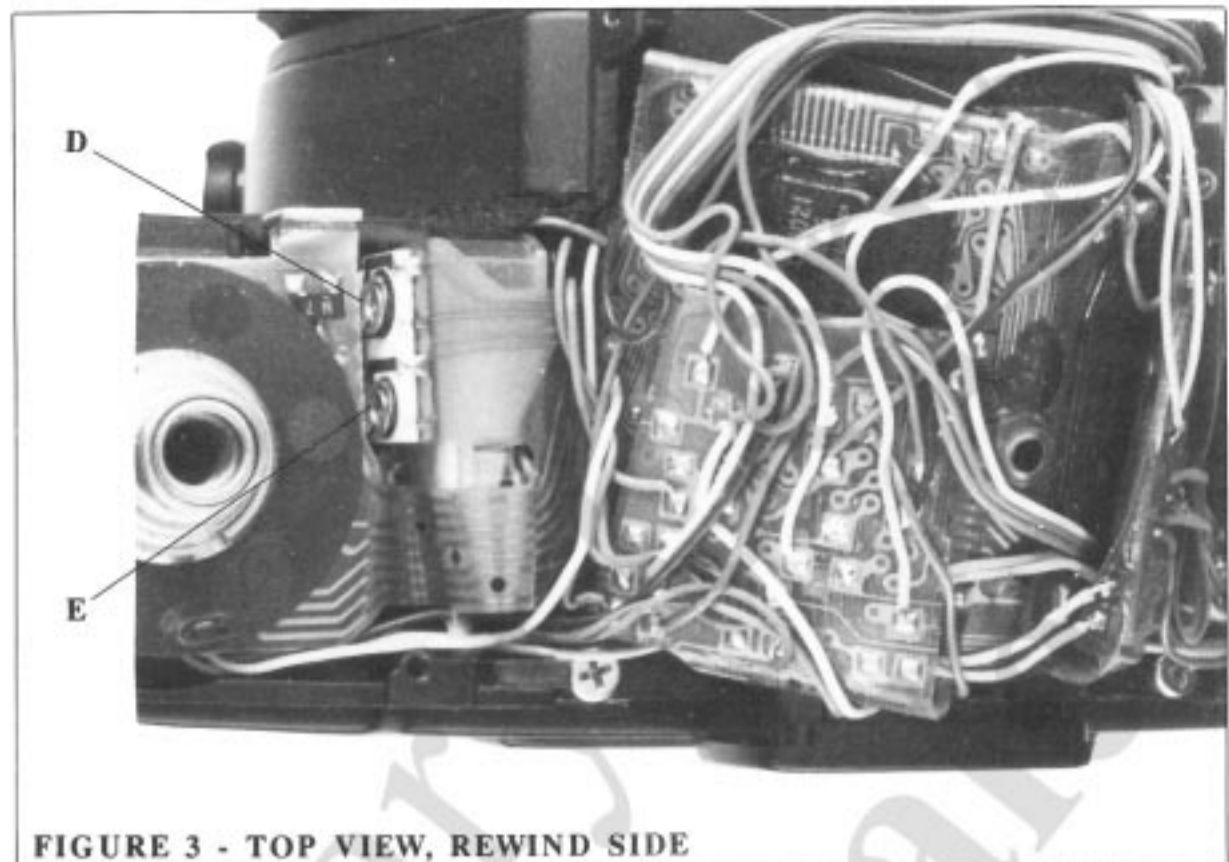
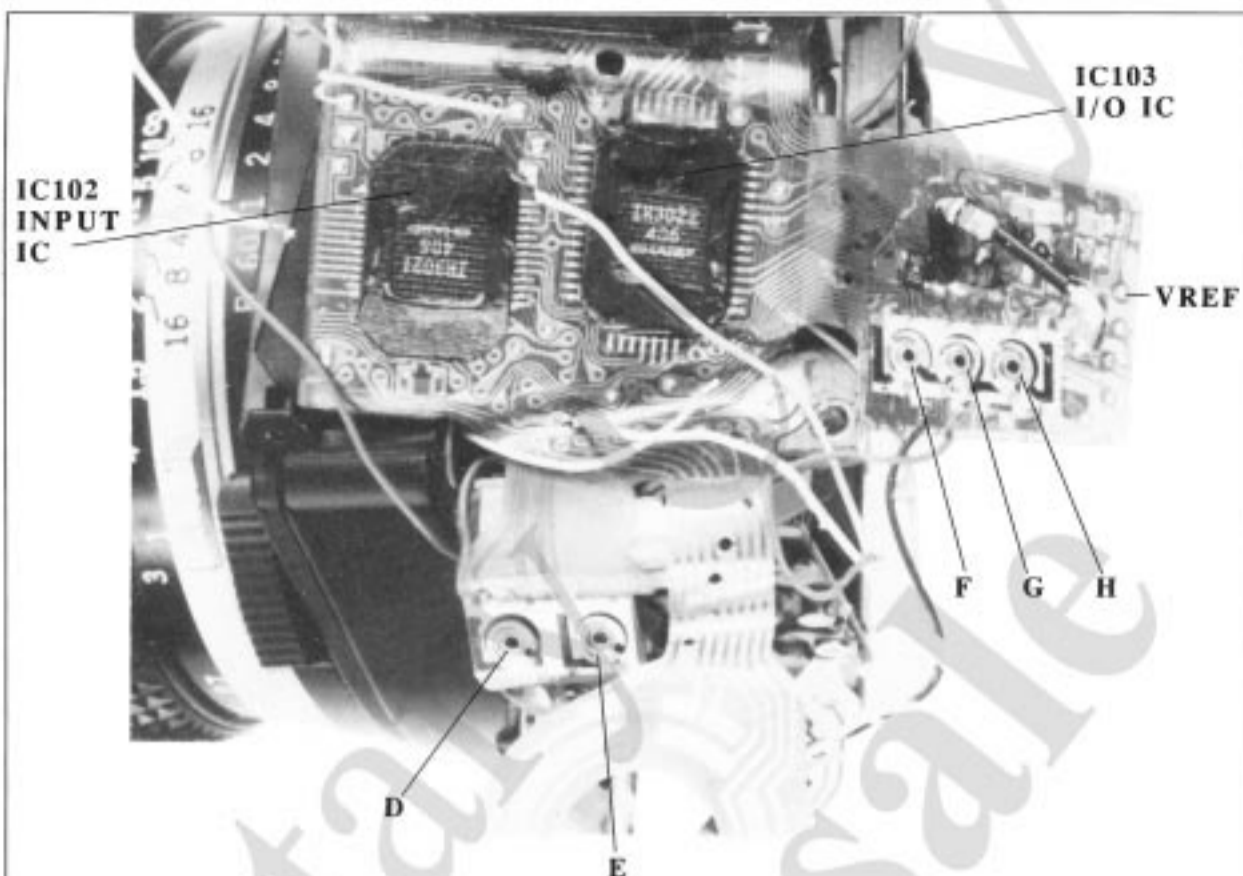

FIGURE 3 - TOP VIEW, REWIND SIDE
FIGURE 7 - TOP VIEW OF MIRROR BOX, REWIND SIDE
- Fig. 3 -- top view, rewind side
Set manual mode, ISO 100, 1/60, f/5.6, EV11. Adjust D, Fig. 3, until the LCD indicates proper exposure (bar aligns with center line).
flap, Fig. 3. Unfold the flex to reach the variable resistors, Fig. 7. You can check and make the adjustments with the wires disconnected.
- b. test points -- Vref TP, Fig. 7 or Fig. 22, to the negative side of the power supply
2. IC102. Input IC on main board, top rewind side, Fig. 7. Receives the BV OUT signal from IC101 as well as the SV, TV, and AV values. An A-D converter in IC102 converts the analog signals to digital signals. The digital signals are supplied to the multiplexer in the CPU on a time-shared system.
3. IC103. Input/output IC, top of main board at rewind side, Fig. 7. Controls the magnets according to signals received from IC101 and IC104.